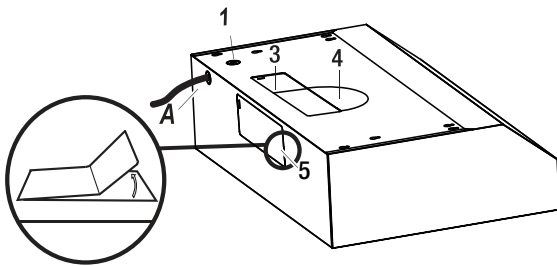

Fig. 11
- Choose the venting hole to remove for your installation type. Use the top holes (3 and 4) for a top venting installation and the back hole (5) for a back venting installation.
- Carefully remove the cover (3, 4 or 5) of the appropriate venting hole using a flathead screwdriver or needle-nose pliers (refer to Fig. 11). Be careful not to leave any debris inside the range hood (A).